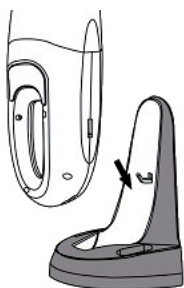

Figure 3
2. Slide the appliance onto the charging base, with the handle facing downwards (Fig. 3).